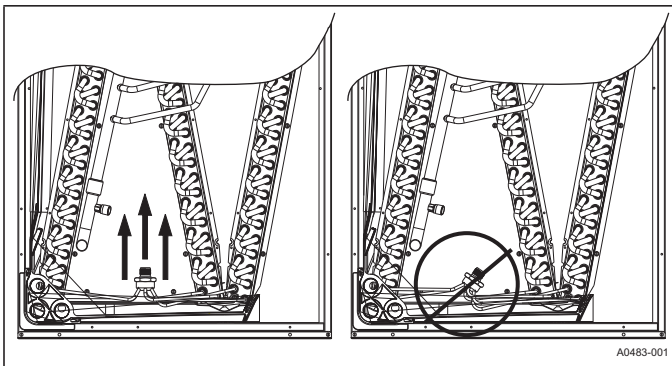

FIGURE 15: Recommended Distributor Adjustment
2. Distributor position must be adjusted to allow the preformed liquid line assembly to properly line up with the hole in the tubing access panel. Raise the distributor body approximately 2" toward the top of the coil or what would be the top of the coil if coil was in the upflow position. See Figure 15. Adjust as necessary.
5. Slide the nut removed in step 3 over the supplied liquid line. Place supplied Teflon washer from TXV kit in place on TXV, and install liquid line to the top of the thermal expansion valve. Adjust assembly so liquid line aligns with hole in access panel. See Figure 15. Hand tighten the liquid line, and apply an additional 1/4 turn to seal.